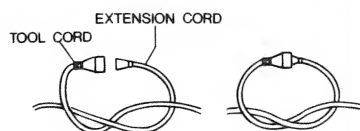
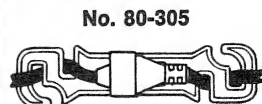

FIGURE 8A
FIGURE 8B
5. **GUARD AGAINST ELECTRIC SHOCK** — Repair or replace damaged mower cord or extension cords immediately. To prevent disconnection of mower cord from the extension cord during operation, knot the cords exactly as shown in Figure 8A or use a cord connector shown in Figure 8B.
**DO NOT** connect the extension cord to power source until you have finished reading this manual and are ready to start mowing. To prevent disconnection of mower cord from extension cord when mowing, (1) make a knot as shown in Figure 8A, or (2) use the accessory Cord Connector shown in Figure 8B (available at small extra cost from your dealer).